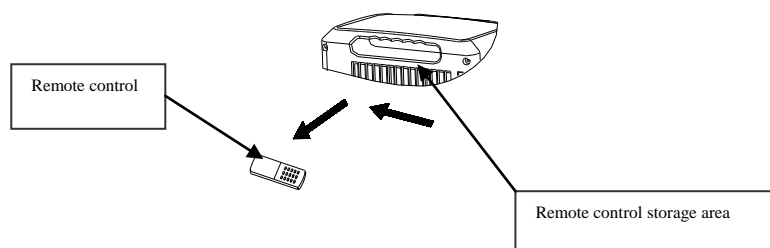

Figure 16
- 1). Take the remote control out of the remote control storage area in the direction shown by the arrow; (as shown in Figure 16)